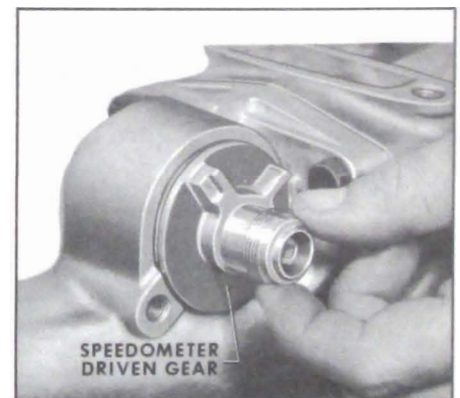

Figure 5-338
1. Install speedo driven gear assembly into rear bearing retainer. See Figure 5-338.